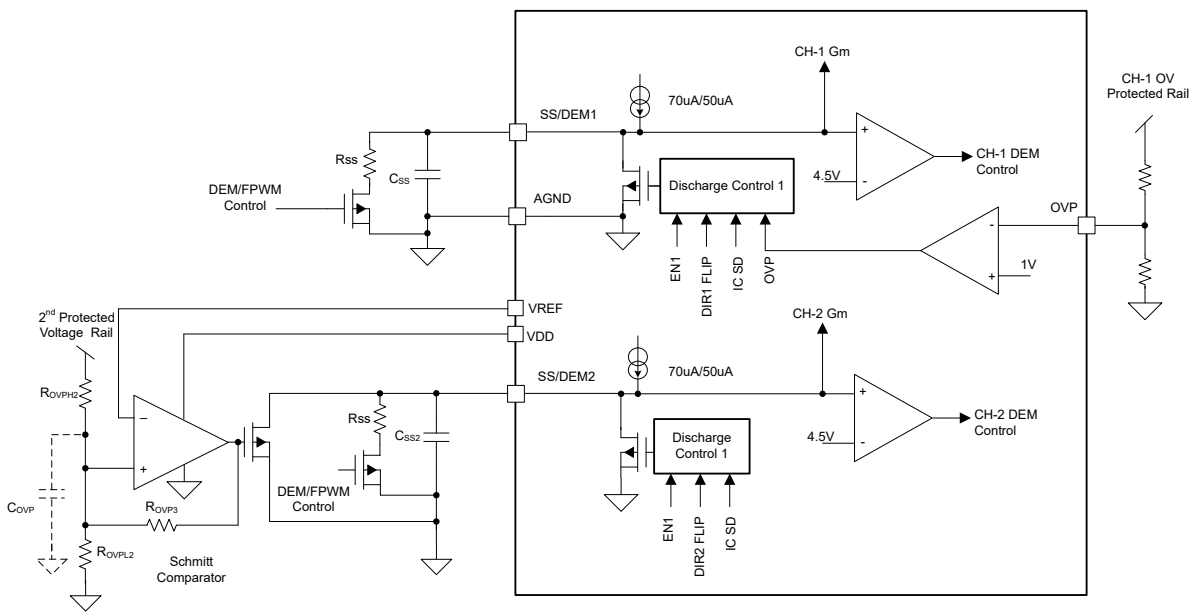

図 6-24. Independent Channel Operation OVP Implementation
- For independent channel operation, an external OVP protection circuit is needed for CH-2 as shown in Figure 6-24, in which CH-1 OVP is implemented with the internal circuit, and the CH-2 OVP is fulfilled by the external open-drain comparator at SS/DEM2. Note the C_{SS2} also serves as the OVP hiccup mode timer for CH-2.